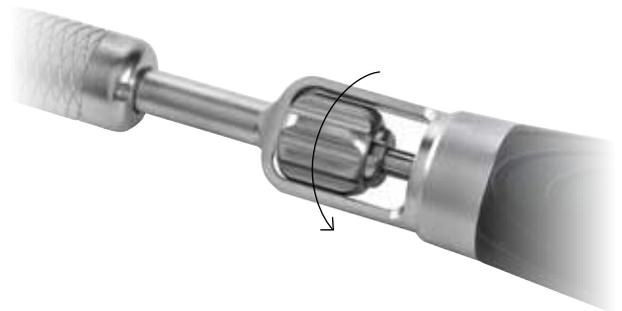

Figure 24:
- Remove the inserter tip by turning the inserter handle thumbwheel counterclockwise (Figure 24).